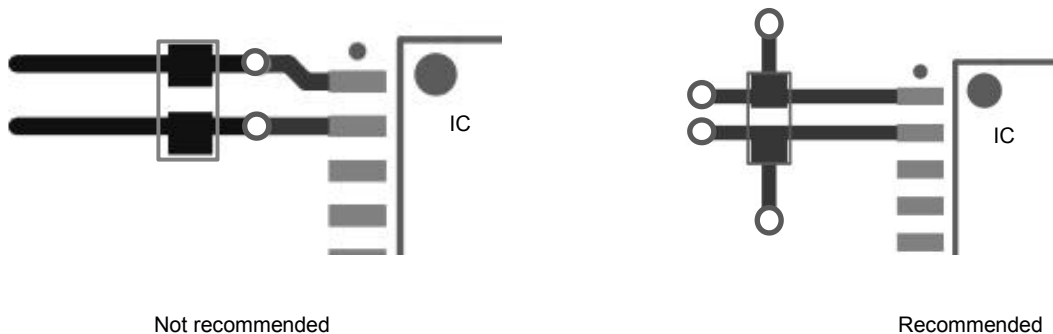

Figure 15-2
3. When it is necessary to place vias in the power supply line and the ground wire, the position of the vias should be placed on the outside of the capacitor relative to the chip pins, rather than between the capacitor and the chip, as shown in the figure15-2 below to reduce the number of vias effect of parasitic inductance.